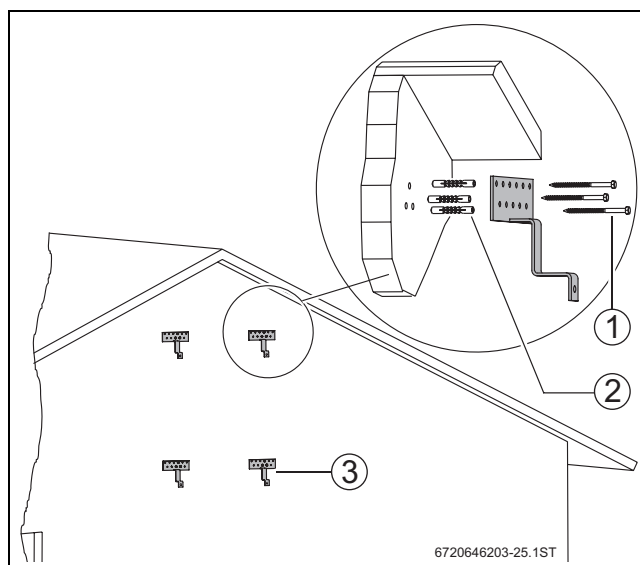

Fig. 26 Securing the mounting brackets
- ▶ Securing the mounting brackets (→ Fig. 26):